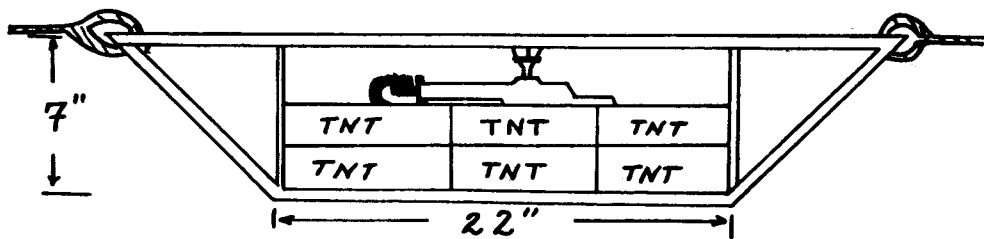

FIGURE 17: SLED CHARGE WITH PRESSURE DEVICE
b. Type: Sled Charge (Figure 17).
(1) Construction: A sled charge is constructed by fastening 20-25 pounds of TNT or C-4 in a container. The explosives should be configured to maximize contact with the track. Two layers of 12 blocks of TNT or C-4 will be most effective. Almost any type firing device may be used to detonate the charge; or if desired, an electric blasting cap with a power source. The preferred method is the M-1A1 pressure firing device which will self activate as the track make contact with the sled. The sled charge is employed by an observer(s) who pulls the charge across the road and under the tank track at which time the charge is detonated. Proper timing of this maneuver is critical.
(2) Effect: When detonated under a tank track, a mobility kill will result. If the charge is detonated under the belly of the tank, no known structural damage will result, but the crew will be stunned momentarily.